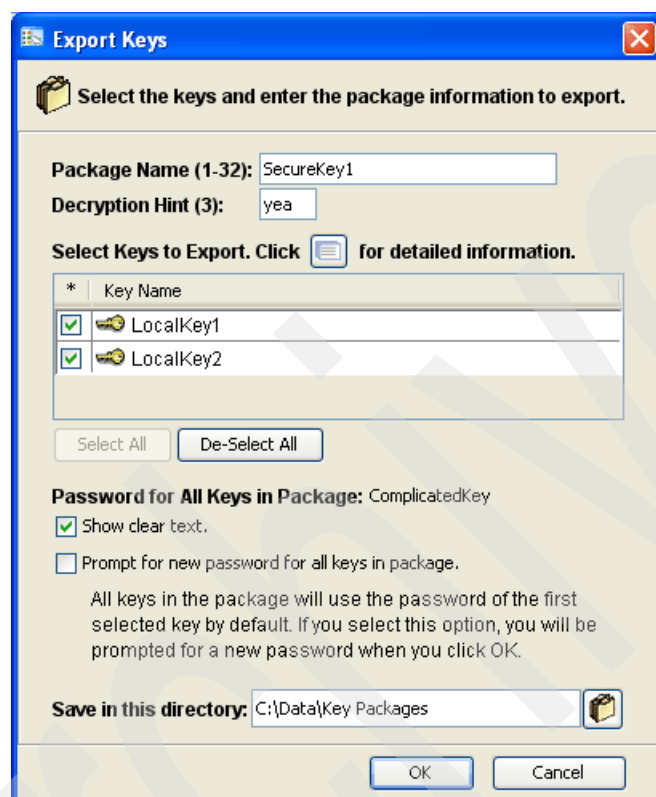

Figure 12-75 Password for all keys in package displayed as clear text
6. To display the actual password, select the **Show clear text** check box as indicated in Figure 12-75. This password is used for all keys in the export package.